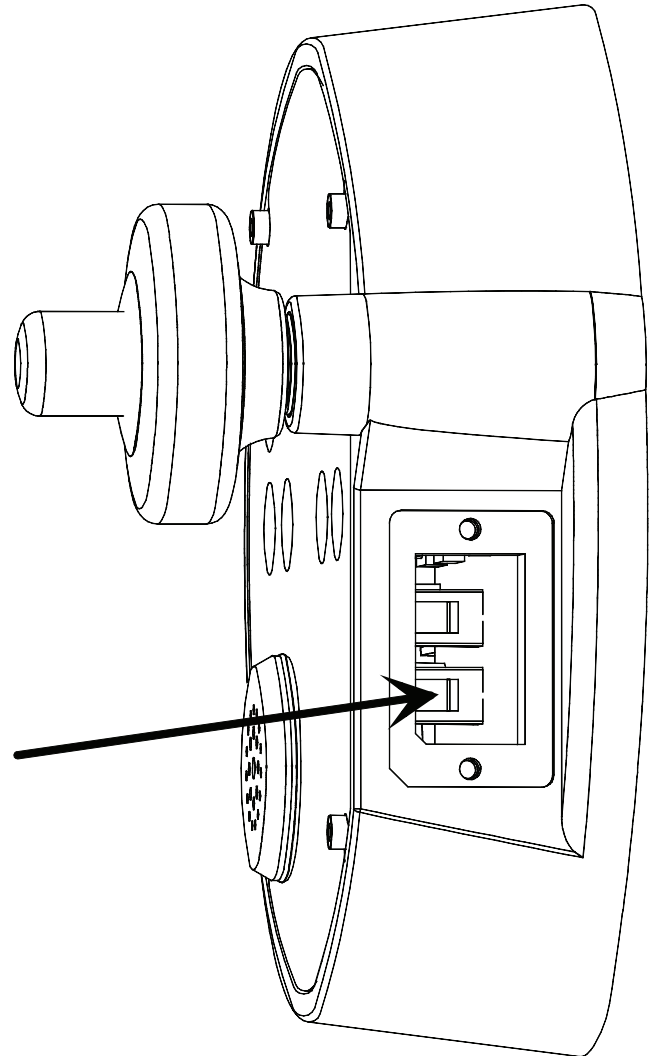

Figure 11-1
- ☞ Measure the resistance between the ground (-) terminal (as shown on Figure 11-1) of the electronic circuit and the tube of the sensing probe; the resistance should be less than 10 Ω . If it is higher, the steel tape might be broken or the connection between the sensing probe circuit and the sensing probe tube might be interrupted.